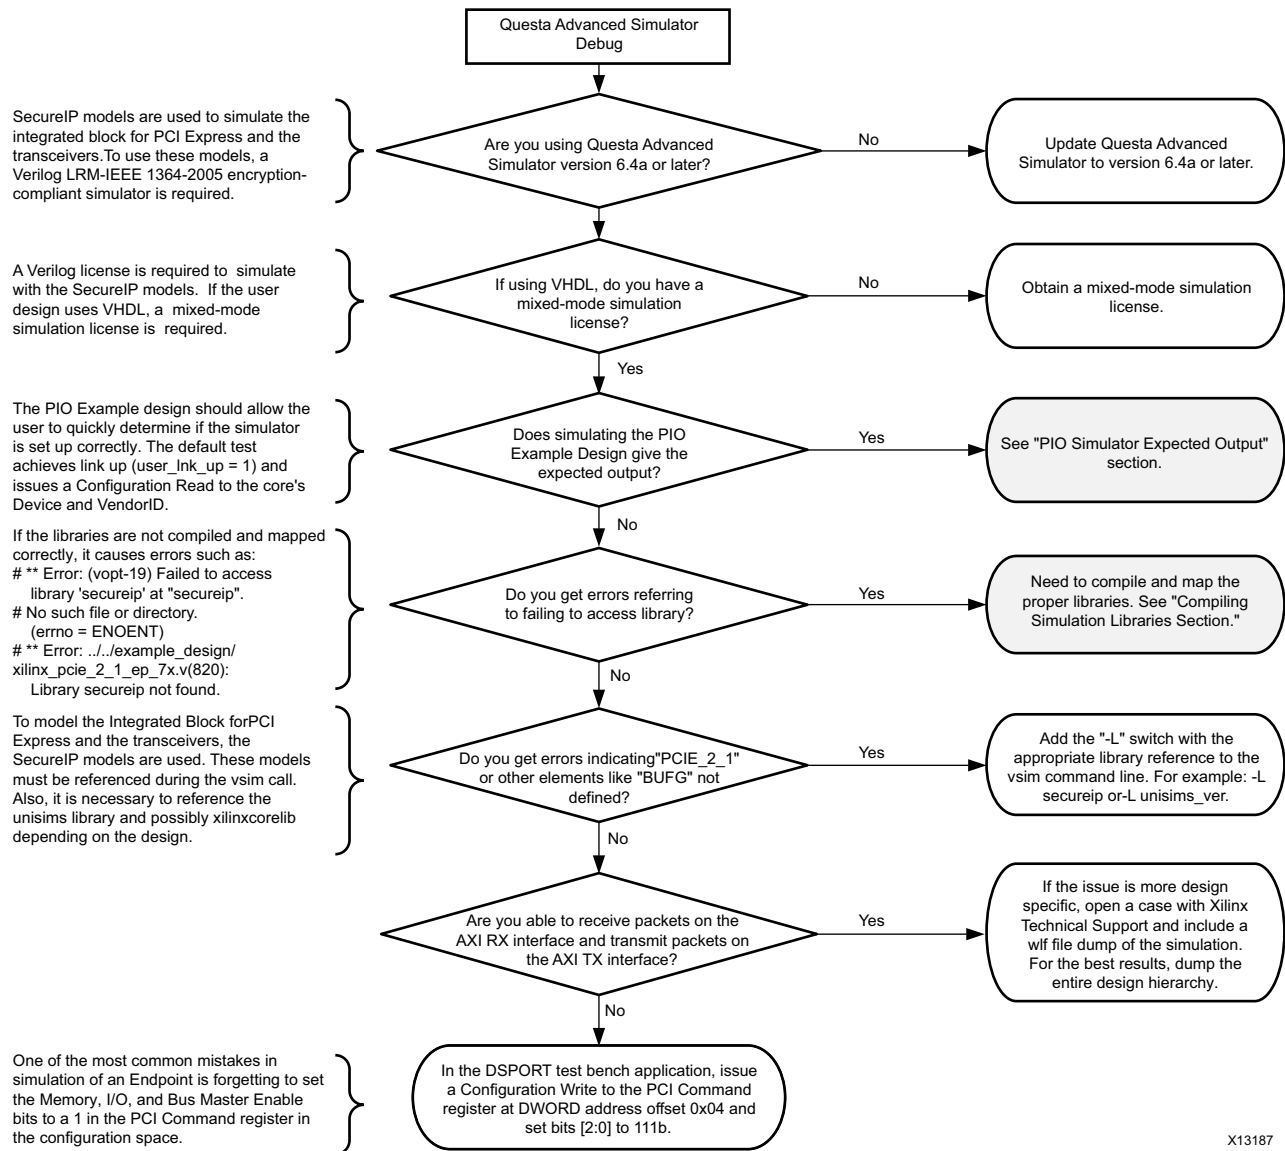

Figure B-2: Questa Advanced Simulator Debug Flow Diagram
The simulation debug flow for Mentor Graphics Questa Advanced Simulator is illustrated in Figure B-2.
**Note:** Endpoints that are shaded gray in Figure B-2 indicate that further explanation is provided in this section.